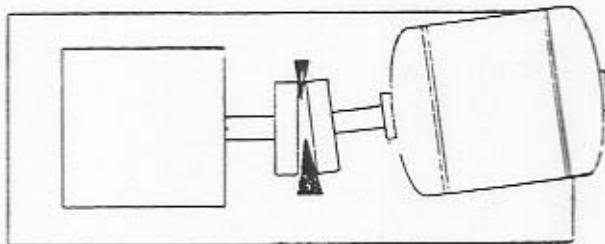

Fig. 4-3 Face Side to Side
2. Side to side variance in the coupling gap (Fig. 4-3) is compensated for by moving the back of the driver in the appropriate direction to equalize the gap.